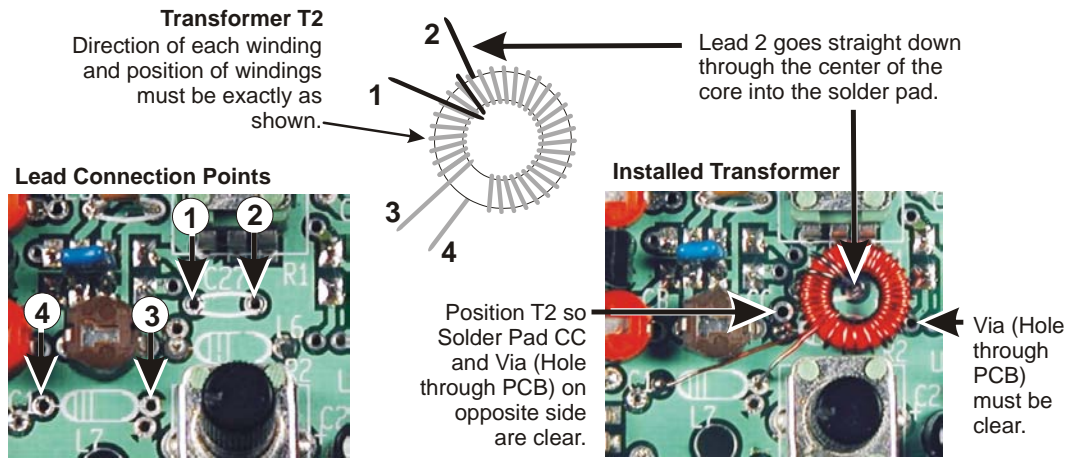

Figure 4. Winding and Installing Transformer T2.
"Sew" the long end of the wire through the hole in one of the T37-2 toroid cores (red) for a total of 33 turns exactly as shown in Figure 4. Be sure you wind the turns the direction shown in the figure. Count one turn for each time the wire passes through the center of the core. There are no half or quarter turns when winding a toroid. The turns should fill about 90% of the toroid core as shown in the figure.
The stripped end of the green wire is end 2 as shown in Figure 4. Position the green wire so the stripped end extends right up to the point where the wire passes into the center of the core, then wrap the long end of the wire around the toroid and through the center one more time to make two turns.
Position T2 between potentiometers R1 and R2 as shown in Figure 4 with the leads passing through the pads for C27 and L7 as shown in Figure 4. Mark each lead where it enters the pad. Use a marker or place a slight bend in the wire at that point.
- Replace T2 on the PCB, drawing the leads through the proper solder pads as shown in Figure 4. Position T2 exactly as shown. Solder pad CC on one side of T2 and the hole through the circuit via on the other side of T2 must be clear. Be sure a small segment of tinned wire is visible above the solder pad on the toroid side of the PCB on each lead. If not, strip a little more enamel off of that lead before proceeding.